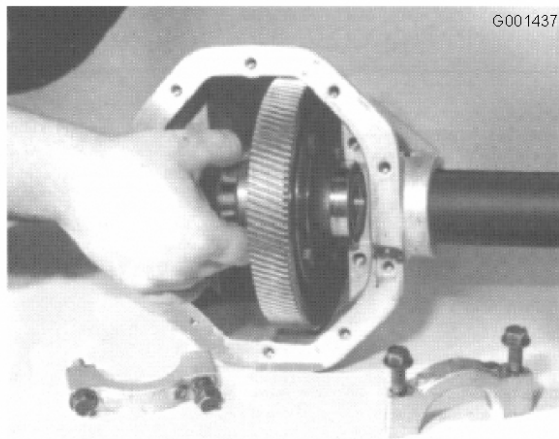

Figure 12
1. Insert the differential assembly into the housing (Figure 12).